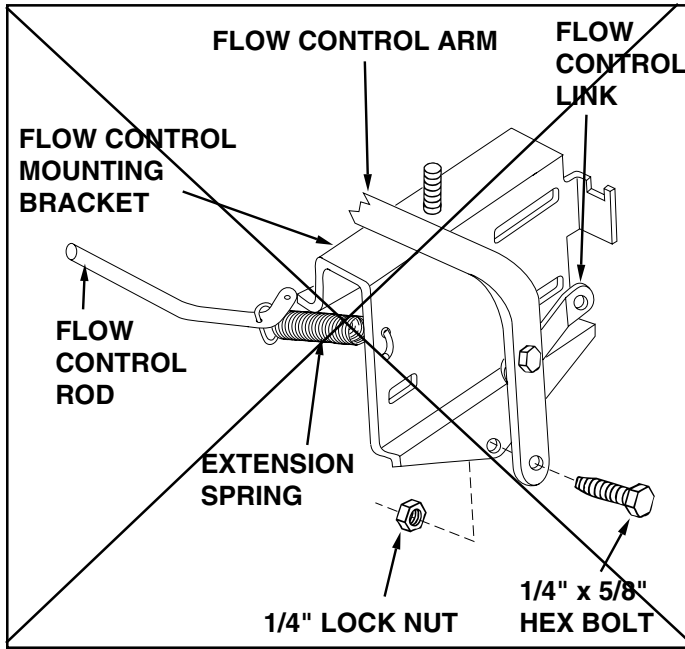

FIGURE 10
- Assemble the flow control arm to the flow control mounting bracket using one 1/4" x 5/8" hex bolt and one 1/4" hex lock nut. See figure 10. **DO NOT OVER TIGHTEN FLOW CONTROL ARM MUST PIVOT FREELY.**
- Hook one end of extension spring through small hole near bend in flow control rod and the other end through the hole in flow control mounting bracket. See figure 10.